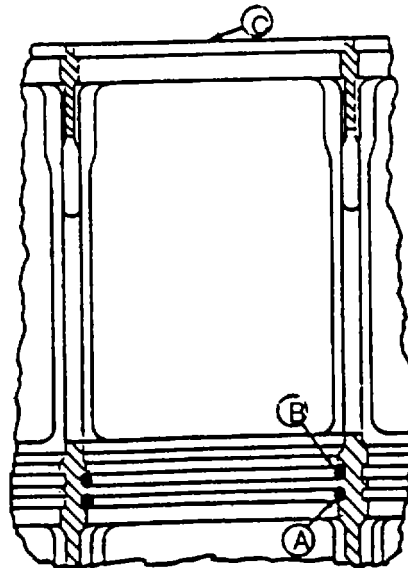
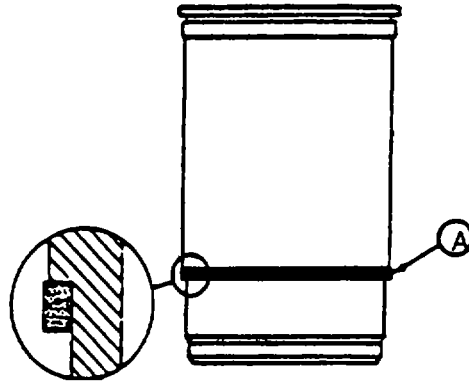

FIGURE 3-165. Location of Cylinder Liner Packings
FIGURE 3-166. Location of Cylinder Liner Square Packing
Do not use oil or hand cleaner soap on cylinder liner packings (A, FIGURE 3-165). Petroleum products will cause the red (or white) packing to swell, which may result in packing damage during liner installation.
- a. Pour liner lubricant (AR54749) into a suitable container. Dip packings (A and B, FIGURE 3-165) in lubricant.
- b. Install black packing (A) in lower packing groove in cylinder block.
- c. Install red (or white) packing (B) in upper packing groove in cylinder block.
- d. Turn cylinder liner upside-down. Dip the square packing (A, FIGURE 3-166) in liner lubricant and install over outside of liner.
- f. Coat liner packings (A and B, FIGURE 3-165), sealing area of the cylinder liner and engine block packing (A, FIGURE 3-166) with liner lubricant.